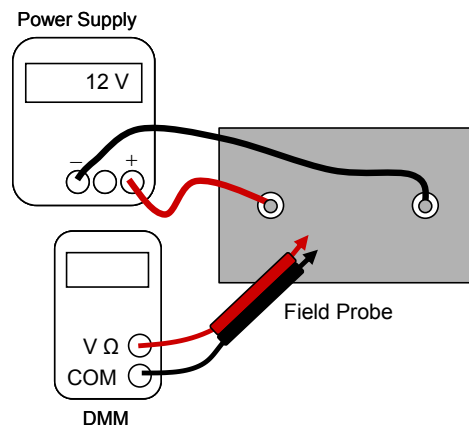

Figure 5: Wiring diagram for field line mapping
- Connect the field probe to the meter as described above and illustrated below in *Figure 5*. Have the DMM set to measure dc volts.